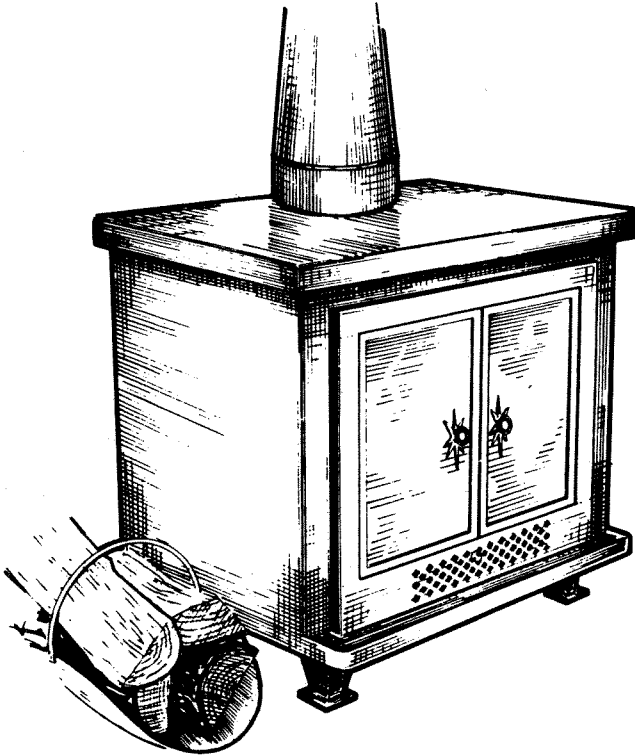

Fig. 41. Colony Classic freestanding fireplace/stove.
7. **Contractor Equipment Manufacturers Inc.** (manufacturer), P.O. Box 290, Ashland, OH 44805. The Colony Classic (Fig. 41 and Table 5) has tempered glass doors, heavy steel grate, and 1/2-inch air space between double walls.